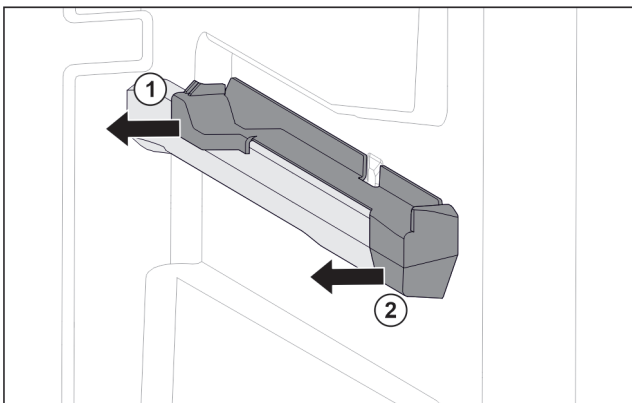

Fig. 73 Attachment on the right moulded rib
- ▶ Pull off attachment at the back sideways. Fig. 73 (1)
- ▶ Pull off attachment at the front sideways. Fig. 73 (2)